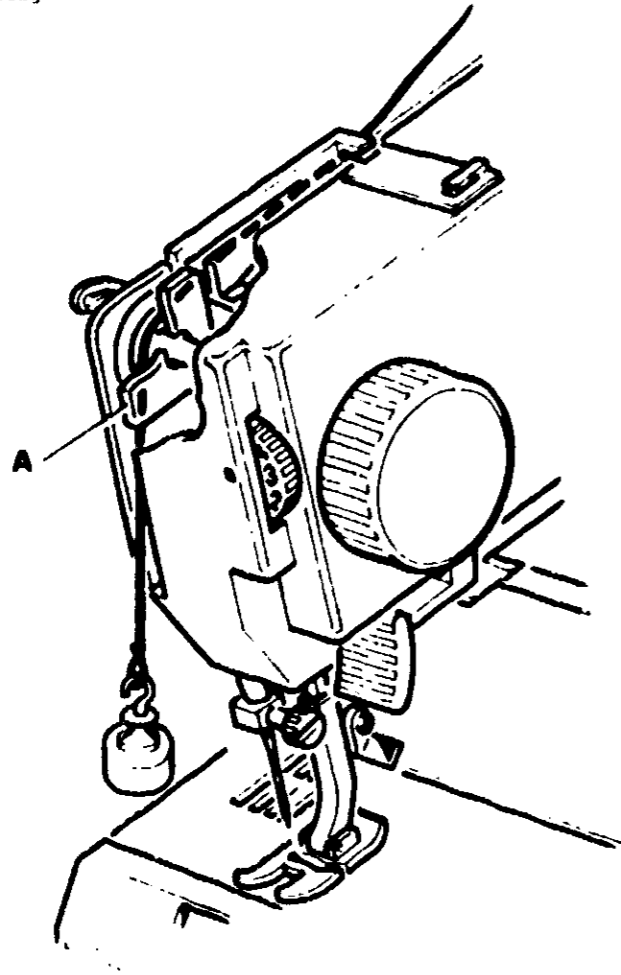

FIGURE 3
- Tie the 55 gram weight (No. 68940) to the end of the thread. Sitting in front of machine tilt machine toward you (Figure 3). The thread should be held between the tension discs and the 55 gram weight should not lower. Add the 15 gram weight to the 55 gram weight. The thread should move slowly through the tension discs allowing the weights to move downward.